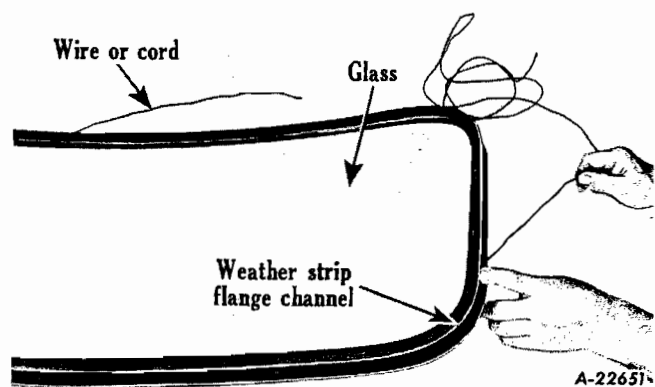

Fig. 23
3. Place a chalk line cord in the weather strip cab flange channel. Work the cord into the channel around the full length of the weather strip, being careful to keep the cord straight and free of kinks. (See Fig. 23.)